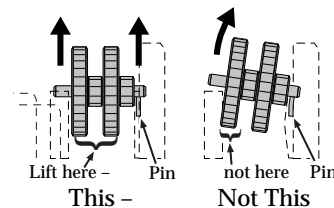

Figure 15
6. Remove the short gear shaft and gears (Figure 15); do not lose the gears off of the shaft.